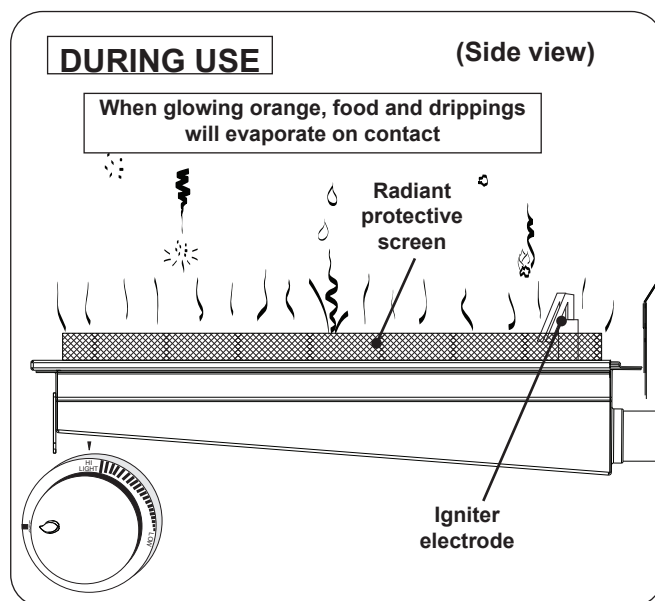

Fig. 5-3 Infrared burner - DURING USE
- **DO NOT place food on the cooking grid until the infrared burner glows orange (Fig. 5-3).** Drippings are heated and evaporate instead of sticking to and impairing burner function.